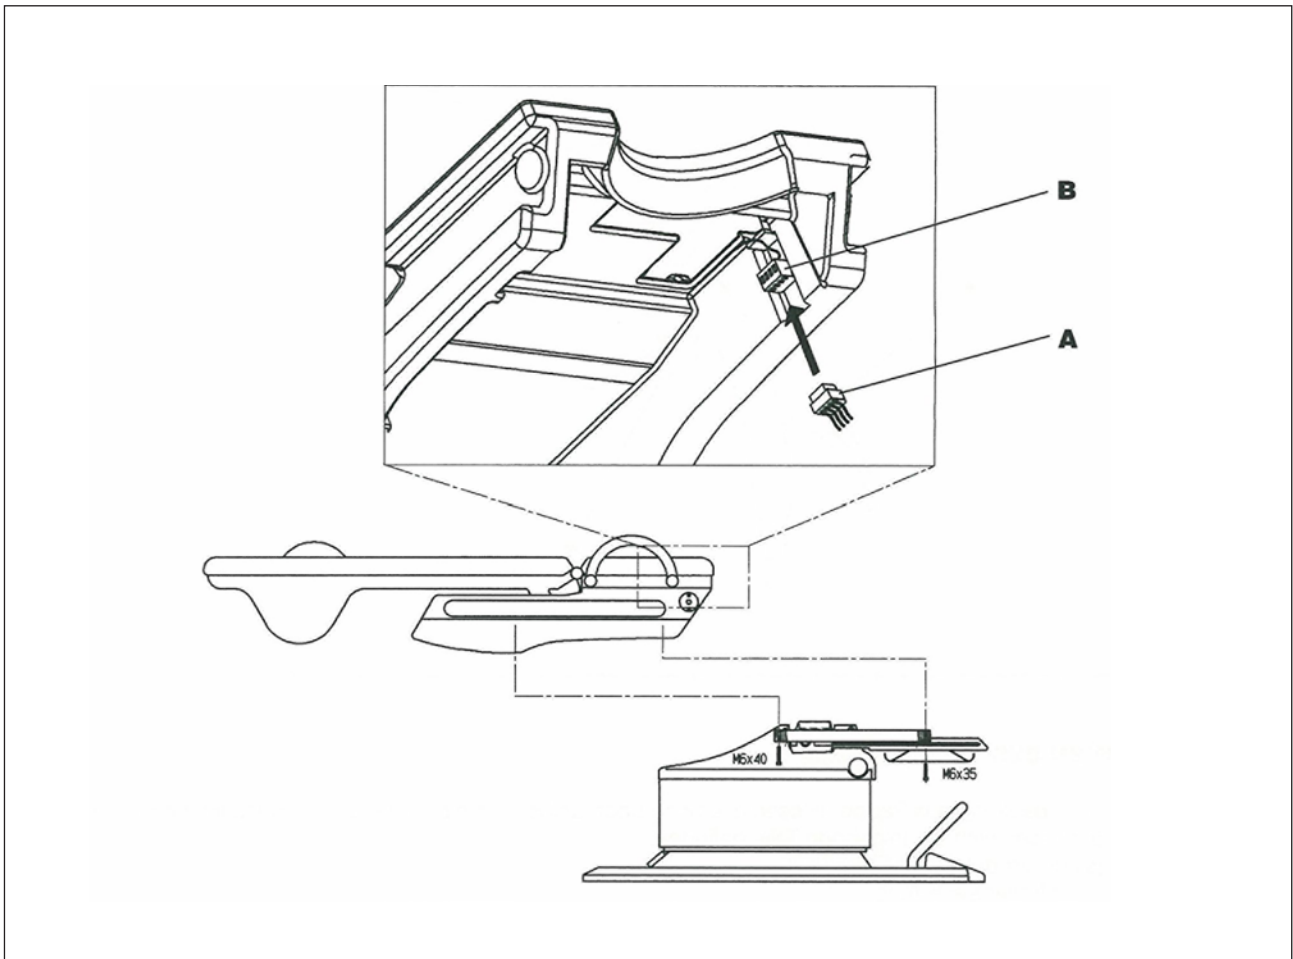

Fig 3.1
- 3) Connect the orange 4 poles crimping terminal of the seat support (Fig. 3.1 A) with that of the counter seat (Fig. 3.1 B) for the mains power supply of the backrest and the respective micro switch.